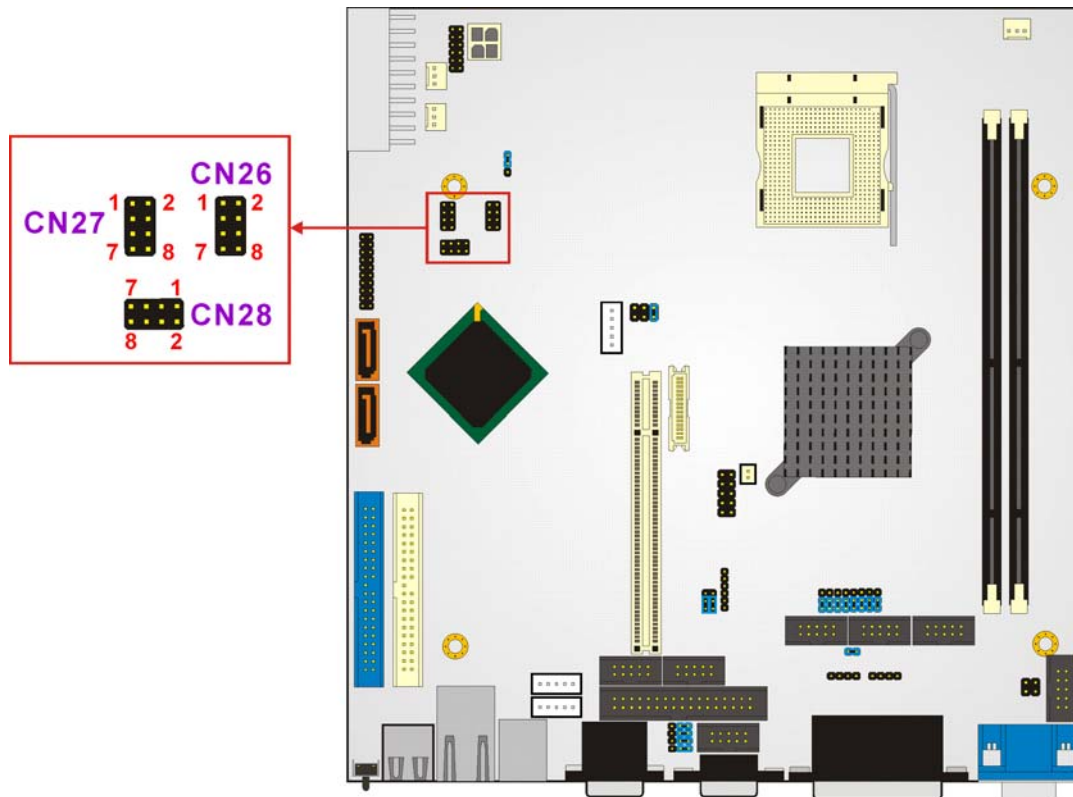

Figure 3-21 USB Connector Locations
- CN Location: See **Figure 3-21**